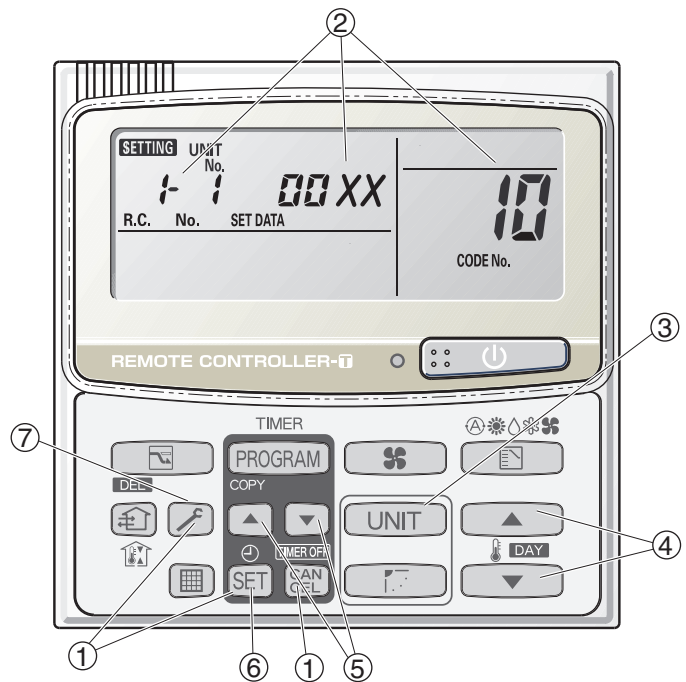

Fig. 2-1
- "SET DATA," unit No. "1" (or "ALL" in the case of group control), item code "10," and settings data "00XX" are displayed blinking on the remote controller LCD display (Fig. 2-1).